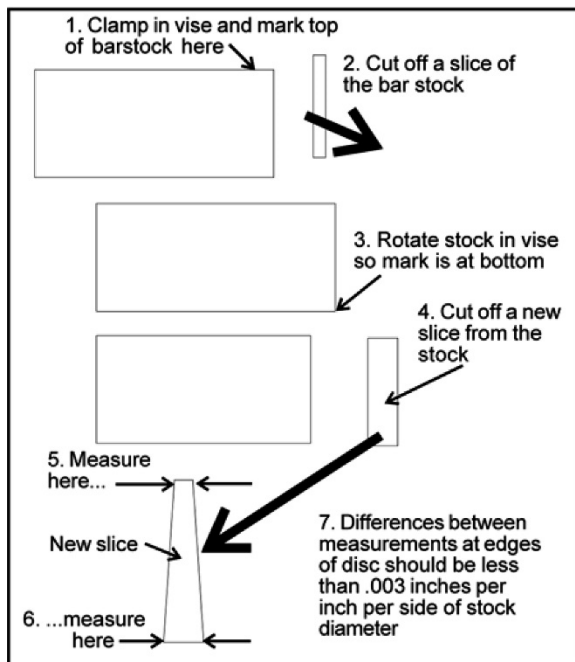

Figure 7-8
1. With bar stock securely clamped in vise, make a cut through the bar stock. (See Figure 7-8.)